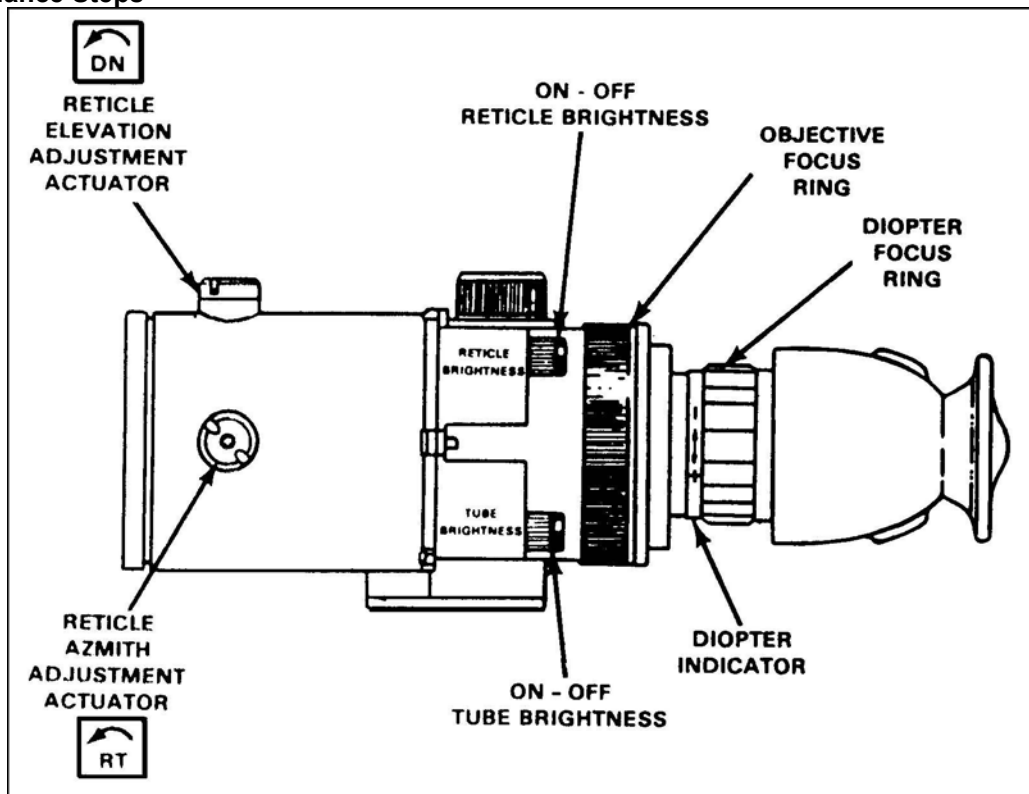

Figure 2. Controls and indicators.
3. Operate the device under normal conditions (Figure 2).
- e. Turn the diopter focus ring (Figure 2) to obtain the clearest image of the reticle pattern.
- f. Turn the objective focus ring (Figure 2) until the target in the field of view is sharply defined.